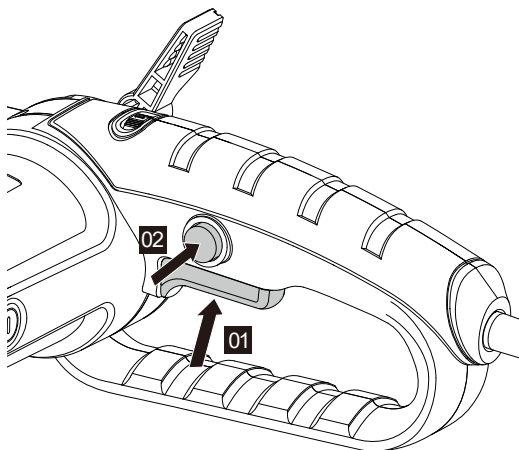

Figure 5-2
- For continuous operation (See fig. 5-2)